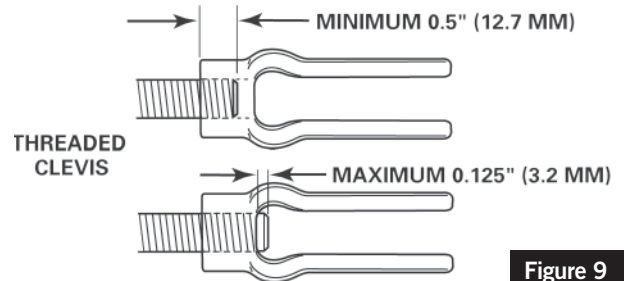

Figure 9
5. Verify that the thread engagement between the clevis and push rod is 0.5" - 0.625" (12.7-15.9 mm). Figure 9.